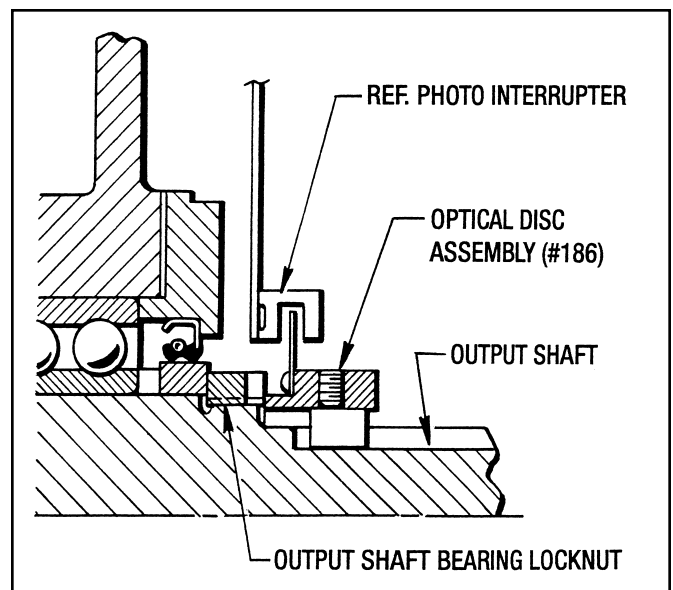

Figure 5.6 - Optical Disc and Hub Positioning (Sizes 03 and 05 *Posidyne*)
2. Slide the Optical Disc Assembly (#186) onto the output shaft until the Optical Disc Hub butts up against the Locknut on the output shaft. (See Figure 5.6)